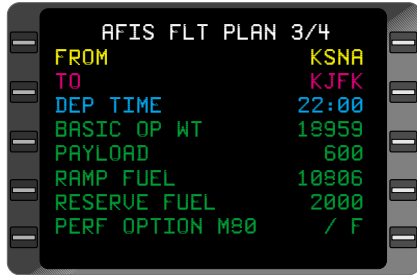

Figure 7-12
**FROM:** Origin airport identifier as transferred from disk or received via the data link, or UPDATE waypoint defining position of aircraft at time of last update request. (Figure 7-12)